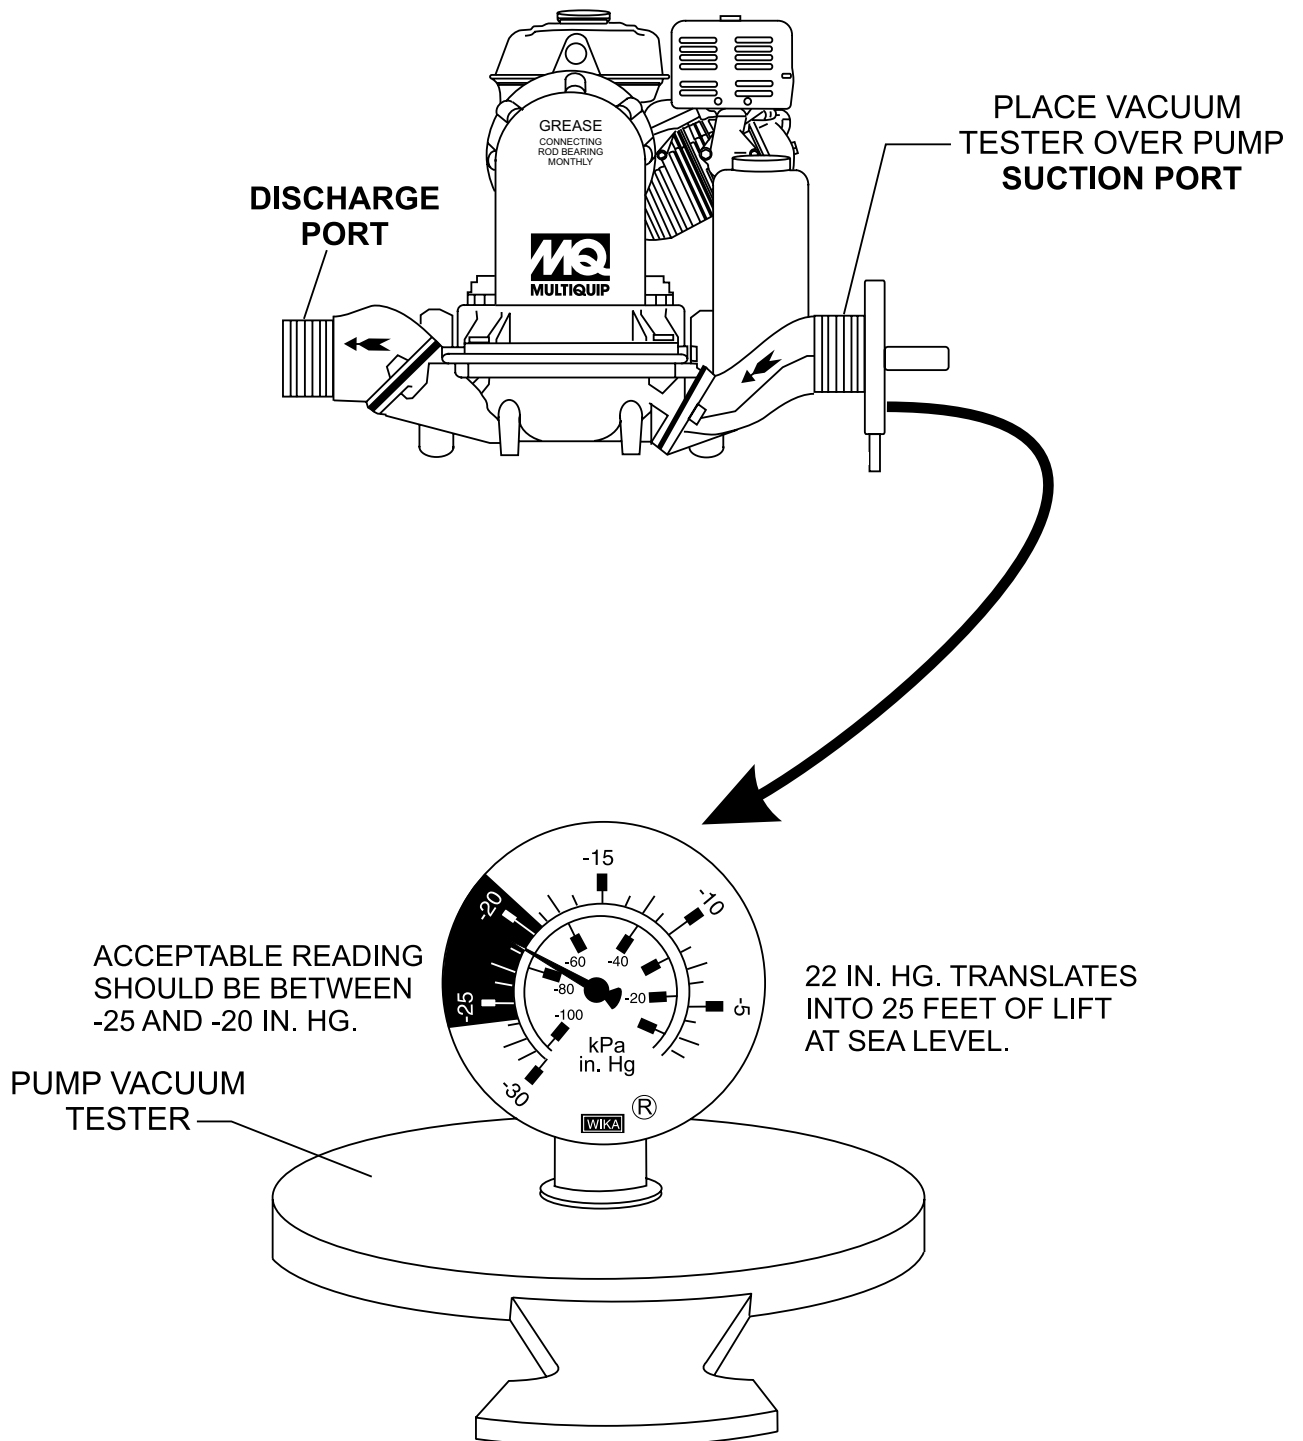

Figure 22. Pump Vacuum Tester
2. Check and make sure that there are no air leaks between the vacuum tester and the inlet port on the pump (Figure 22). If air leaks are present reseal vacuum tester.